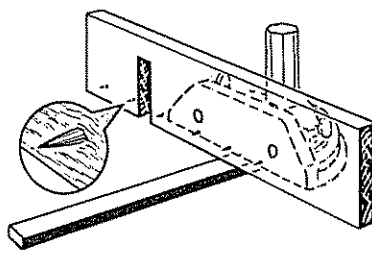

Figure 65
- An auxiliary wood extension bolted to the miter gauge greatly improves the gauge as a support. (See figure 65.) If fitted with pin points (phonograph needles are excellent) or sandpaper, the extension will help prevent side creep of the work.